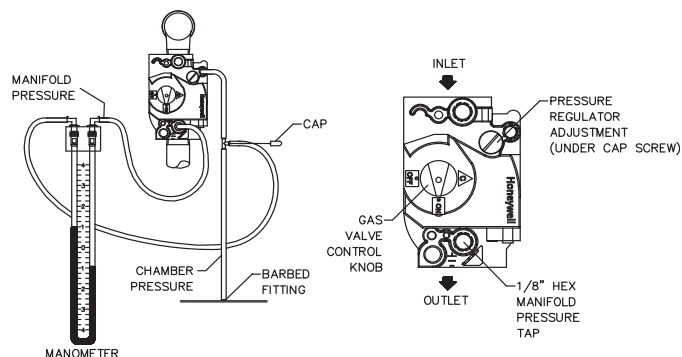

FIG. 31 Measuring Manifold Gas Pressure
4. Locate the reference hose on the second gas valve which goes from the vent fitting on the gas valve to a barbed fitting on the deck of the unit (see FIG. 31).
6. Remove the 1/8" hex plug from the manifold pressure tap on the gas valve (see FIG. 31). **Retain plug for future use.**
7. Install a fitting in this tap that is suitable for connection of a hose to a manometer, or (+) side of a magnehelic gauge (see FIG. 31).